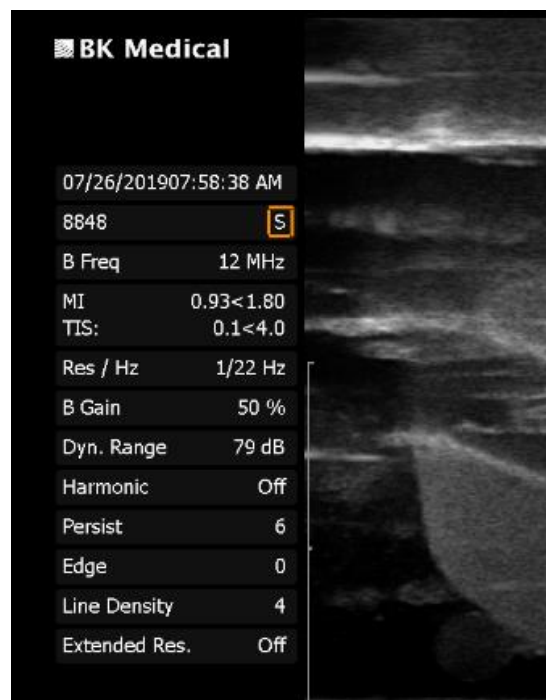

Figure 42: BK U/S Correlation Rectangle
- For BK U/S users, UroNav can automatically detect the imaging plane of the U/S scanner using a “correlation rectangle.” The location of this rectangle is provided automatically by the system but can also be set manually by the user. While Automatic Detection is enabled, and the location of the rectangle is correctly placed (see Figure 42), the selected plane in UroNav shall match that of the connected ultrasound.